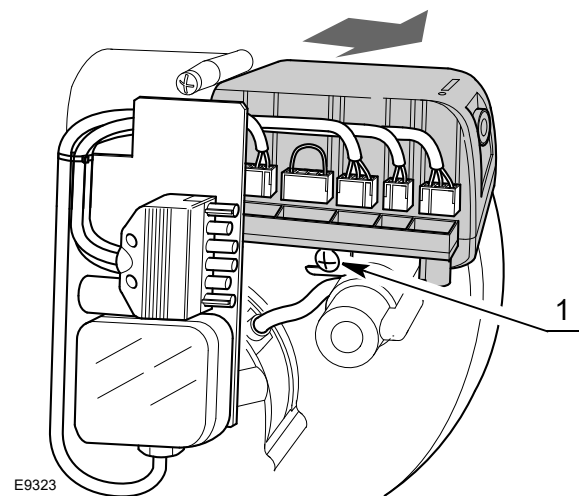

Fig. 16
- disconnect all the connectors connected to it, the 6-pin plug, the high voltage cables, and the earth wire (TB);
- loosen the screw 1)(Fig. 16) and pull the control box in the direction of the arrow.
- tighten screw 1)(Fig. 16) with a tightening torque of $1 \div 1.2$ Nm;